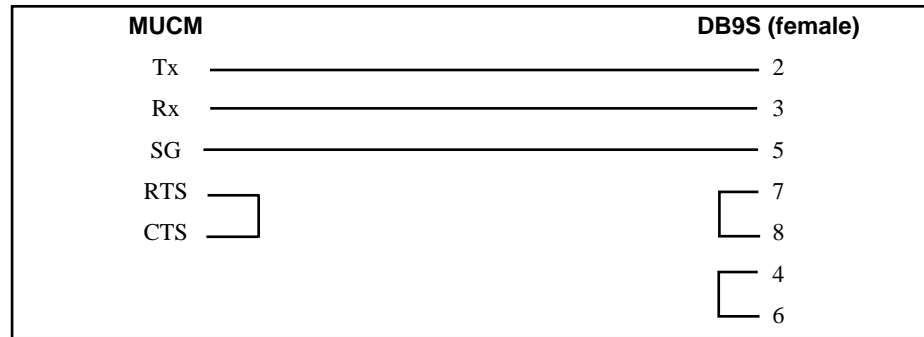

Figure 2-1 MUCM to PC RS-232 (MU1 Cable)
- MU1 cable (or equivalent can be built; see Figure 2-1)
A physical connection must be made from the personal computer to the MUCM in order to download the applications. This link is a serial connection from a COM port on the personal computer to the RS-232 port on the MUCM. The Niobrara MU1 cable may be used for this connection. This cable is shown in Figure 2-1.
For configuration, connect a PC with a terminal emulator (such as Hyperterminal) to the MUCM's port 1 using a MU1 cable (as described in Figure 2-1 on page 8). The configuration terminal should be set to 9600 baud, No parity, 8 data bits. Pressing ENTER will cause the MUCM to display the main menu.